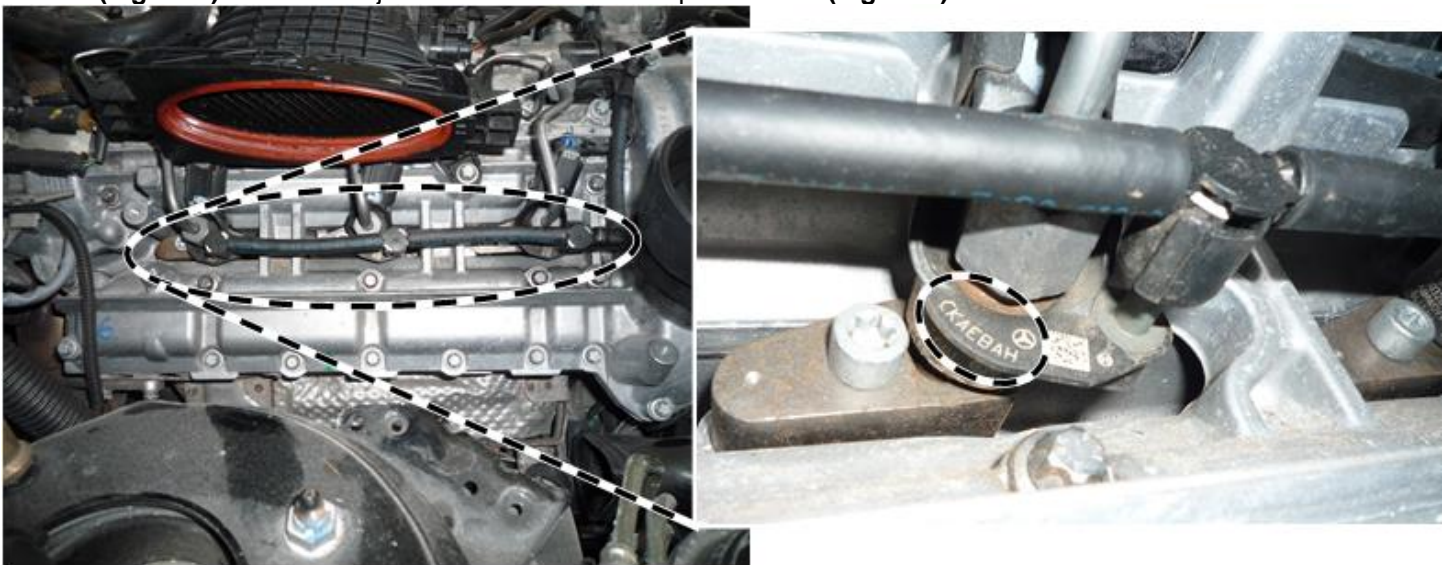
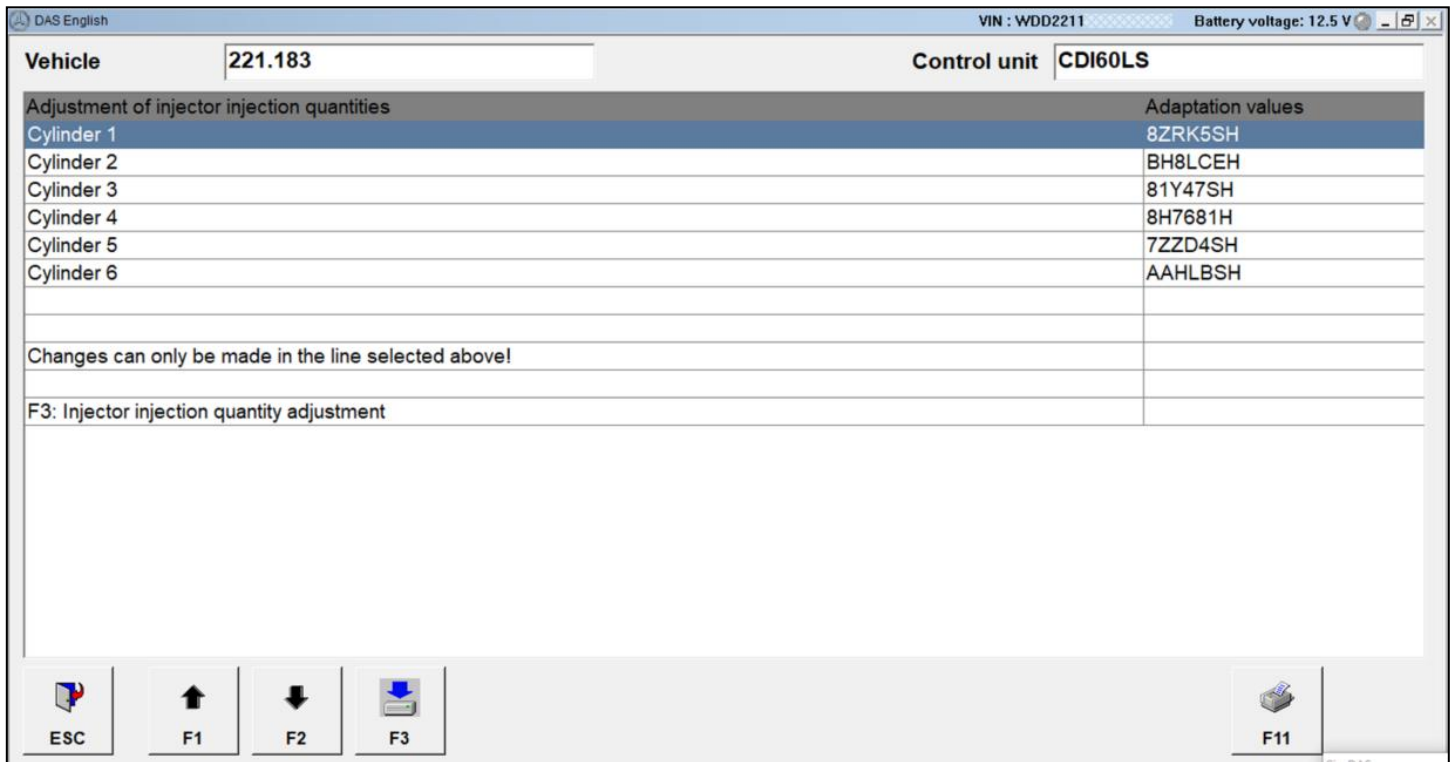

Figure 1
Figure 2
2. Read off injection quantity adjustment values (codings) at all six fuel injectors (**Figure 1**) and enter adjustment values in the respective field (**Figure 2**).